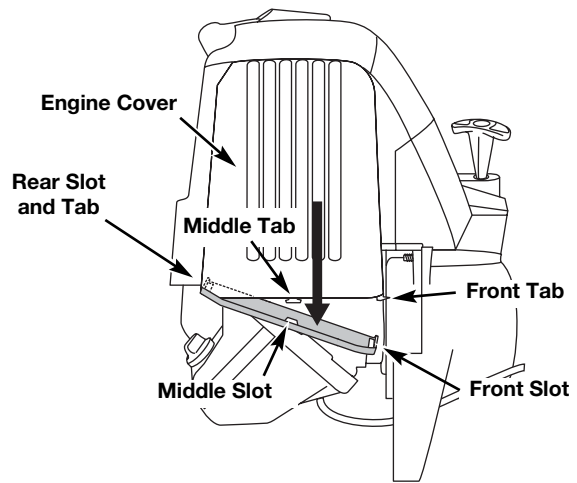

Fig. 35
1. Remove the muffler cover by pressing down on it, separating it from the engine cover. Using a flat blade screwdriver, disengage the middle and front tabs and slots first. The cover will hinge off from the rear tab (Fig. 35).